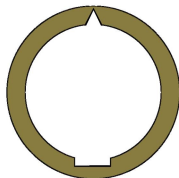

Figure 2
- **Step 4** Modify one of the two CR-2050 rings as shown in Fig. 2. A sharp #11 knife works best. Do not cut completely through the ring!